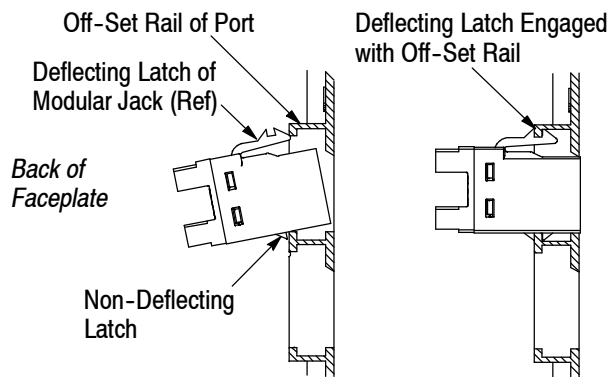

Figure 2
1. From the back of the faceplate, rest the non-deflecting latch of the modular jack or insert on the bottom of the port opening. The deflecting latch should be facing up according to the "UP" designator marked on the back of the faceplate. Refer to Figure 2.